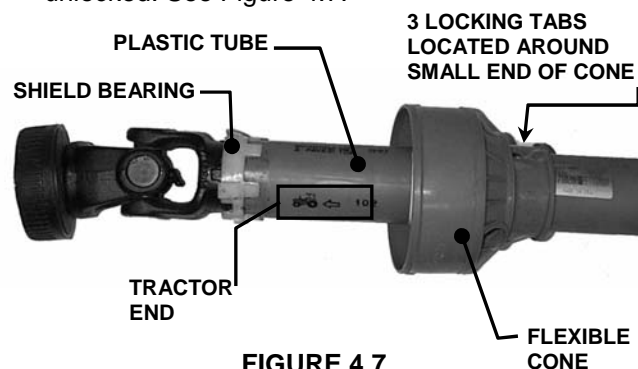

FIGURE 4.7
2. Locate three locking tabs in flexible cone. While pushing down on cone, press in the three locking tabs. Slide cone down on plastic tube when unlocked. See Figure 4.7.